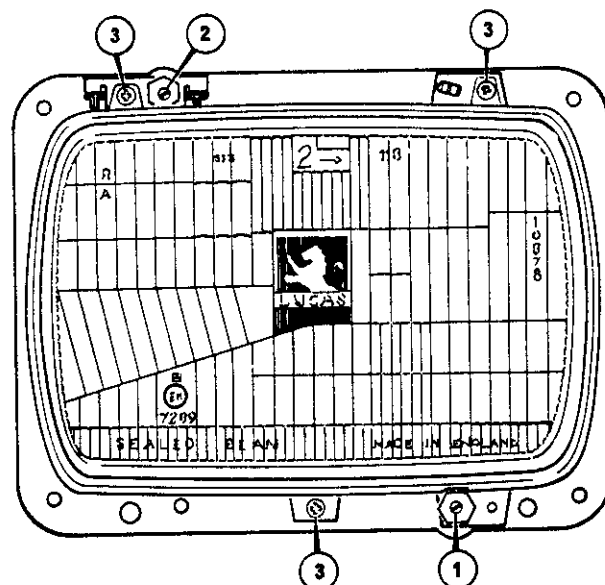

Figure 13 Headlamp adjuster screws
6. The nearside lamp should be adjusted until the area of concentrated light (hot spot) is focused just below "H" on the aiming board on the centre line of the left-hand headlamp, as shown in **Figure 14**. Vertical adjustment is obtained with adjusting screw "1" (**Figure 13**) and horizontal with adjusting screw "2". With the main beam correctly set the dipped beam will automatically be correct.